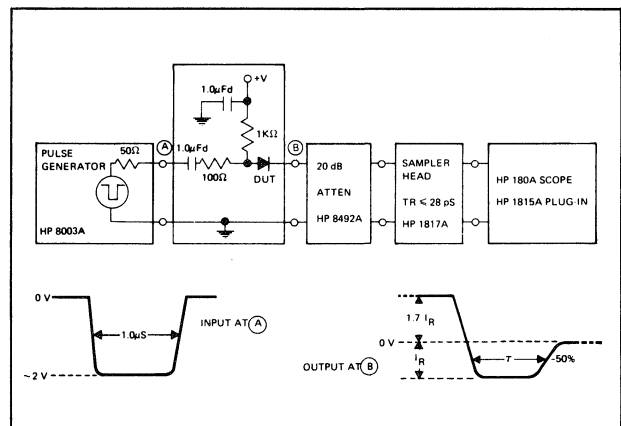

Figure 5. Minority Carrier Lifetime,  $\tau$ , Test Set-Up
2. Measured in Circuit of Figure 5;  $I_F = 10$  mA,  $I_R = 6$  mA